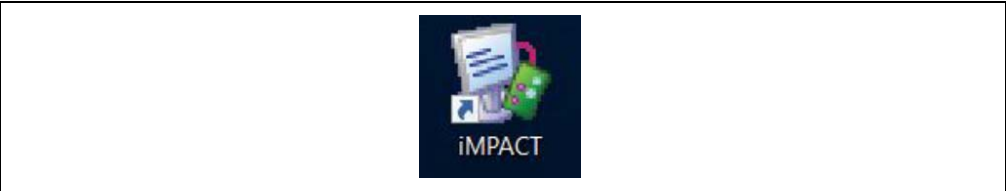

FIGURE 4-1: iMPACT Icon.
- 1. Start the iMPACT tool of Xilinx by clicking on the iMPACT icon. See Figure 4-1.